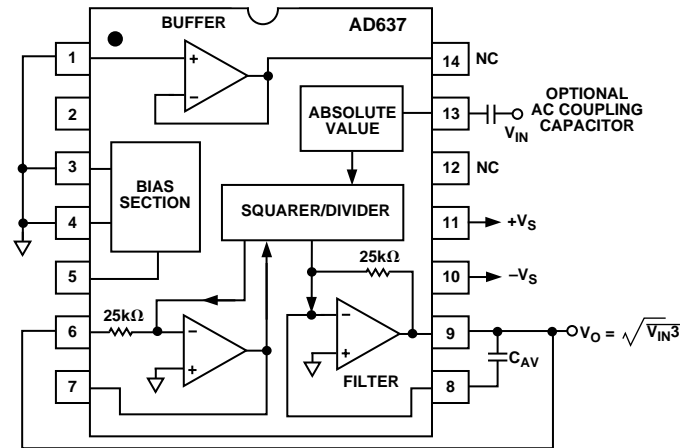

Figure 2. Standard RMS Connection
- 1Accuracy specified 0-7 V rms dc with AD637 connected as shown in Figure 2.
The AD637 is simple to connect for a majority of rms measurements. In the standard rms connection shown in Figure 2, only a single external capacitor is required to set the averaging time constant. In this configuration, the AD637 will compute the true rms of any input signal. An averaging error, the magnitude of which will be dependent on the value of the averaging capacitor, will be present at low frequencies. For example, if the filter capacitor  $C_{AV}$ , is 4  $\mu F$  this error will be 0.1% at 10 Hz and increases to 1% at 3 Hz. If it is desired to measure only ac signals,
the AD637 can be ac coupled through the addition of a non-polar capacitor in series with the input as shown in Figure 2.